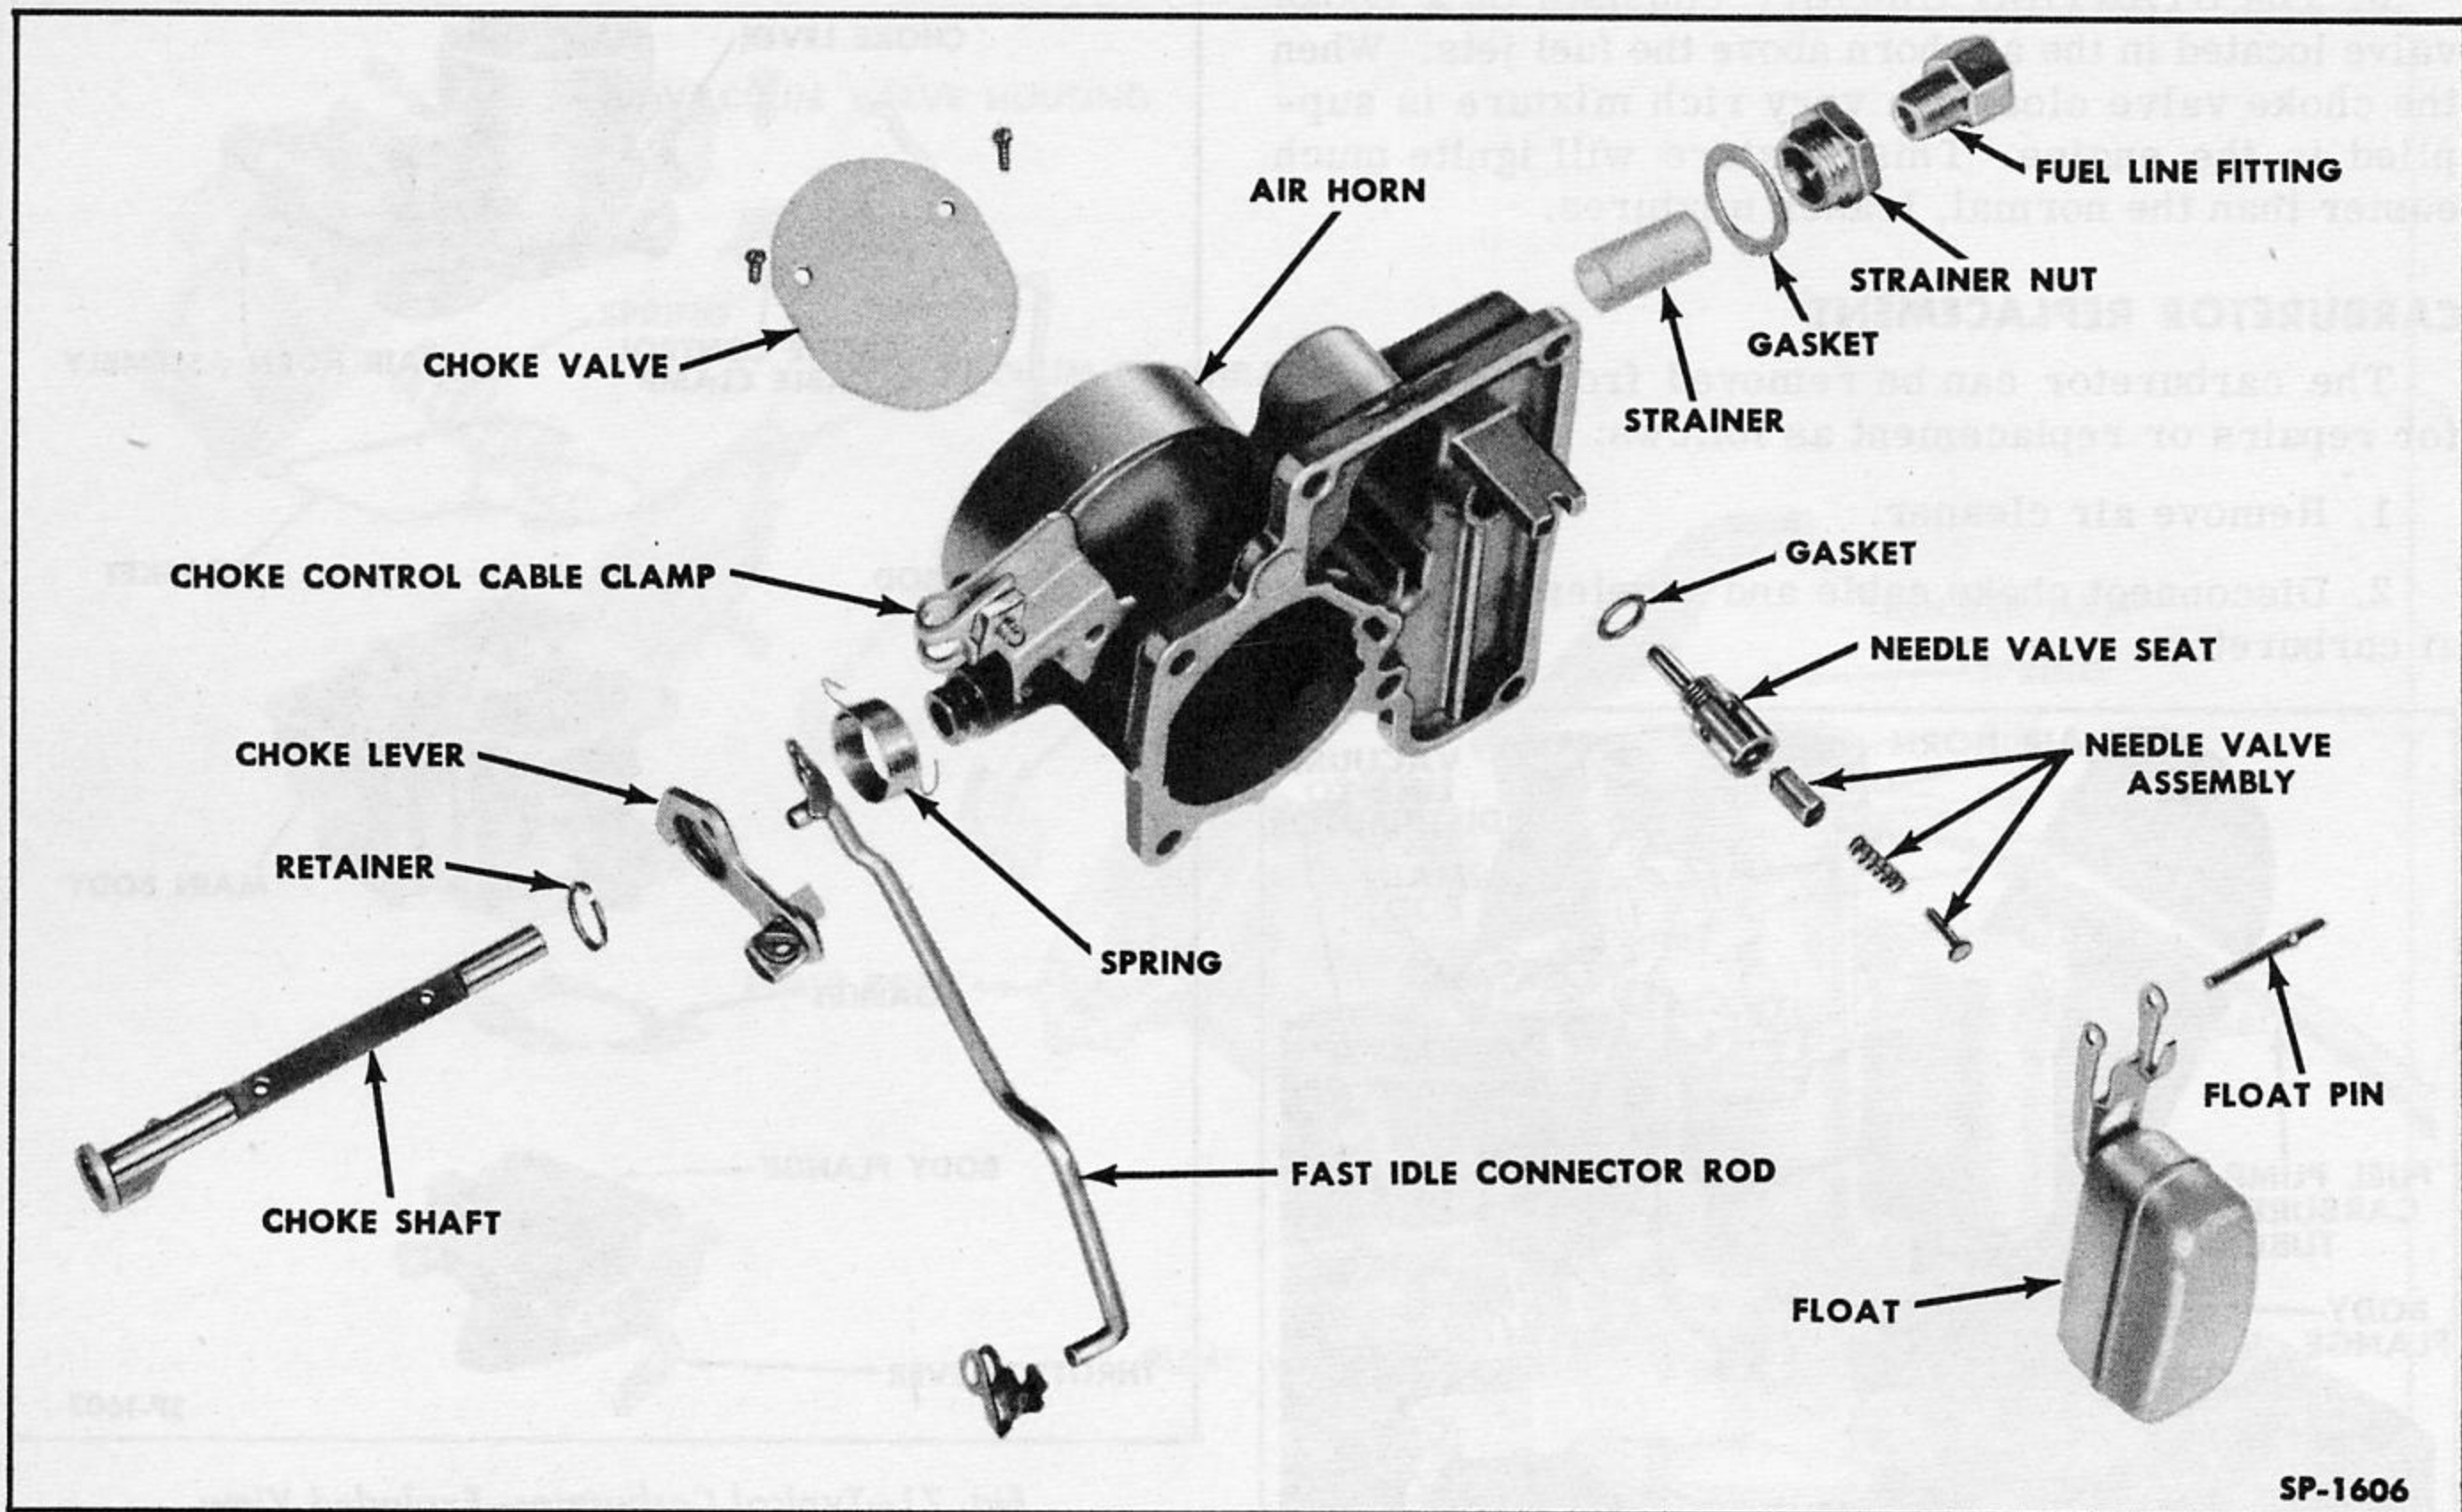

Fig. 72—Carburetor Air Horn—Exploded View
2. Disassemble air horn (Fig. 72) by removing float pin, float, needle valve assembly and remove needle valve seat and gasket using a wide bladed screwdriver that will contact both slots in the seat. Remove two screws and choke valve from shaft, disconnect spring from choke shaft and remove shaft. Remove choke lever and spring after removing retainer ring from groove in air horn. Remove fuel strainer nut and strainer screen, if so equipped.